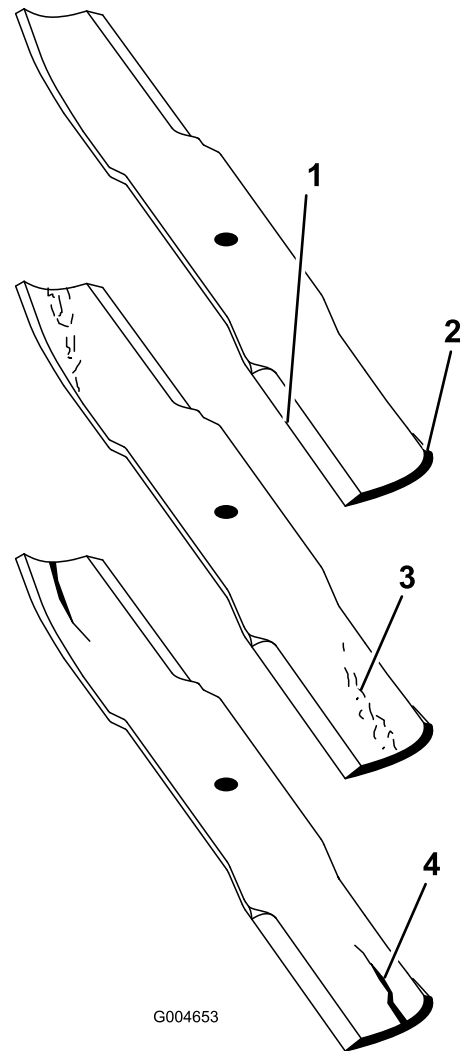

Figure 124
2. Examine the cutting ends of the blade carefully, especially where the flat and curved parts of the blade meet (Figure 124).
Note: Because sand and abrasive material can wear away the metal that connects the flat and curved parts of the blade, check the blade before using the mower. If wear is noticed (Figure 124), replace the blade.